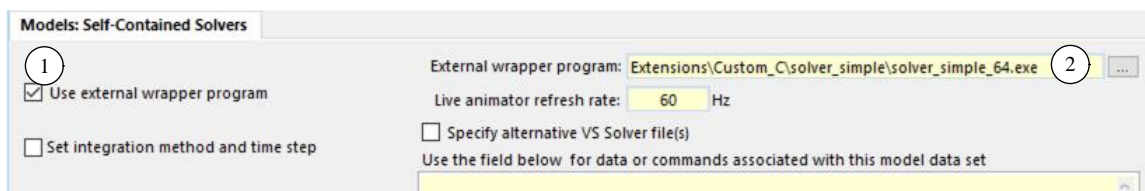

Figure 16. Identify the pathname to the compiled EXE wrapper program.
In the linked **Models: Self-Contained Solvers** dataset (Figure 16), check the box to use an external wrapper program (1) and specify the pathname for the compiled wrapper program (2).